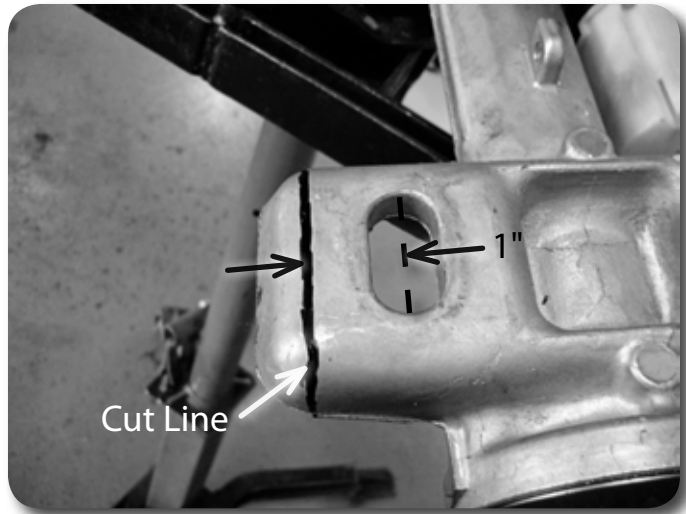
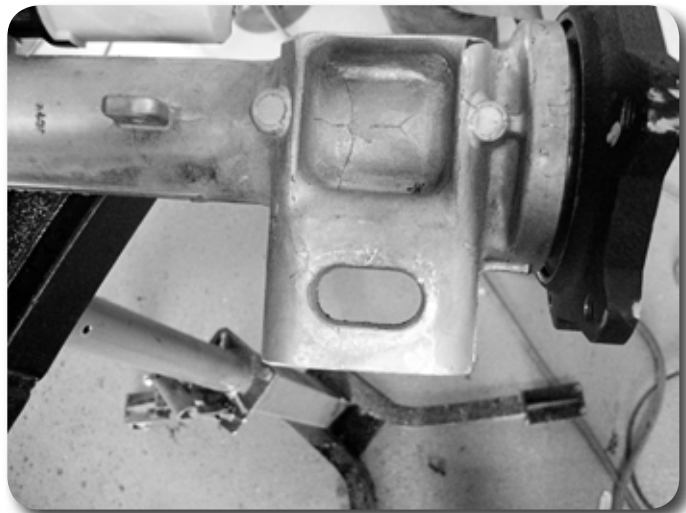

Figure 22
Figure 23
31. The rear side of this mount also needs to be trimmed. Measure 1" from the center of the slot and mark a cut line. Figure 22 Using a reciprocating saw, cut at the line Figure 23.